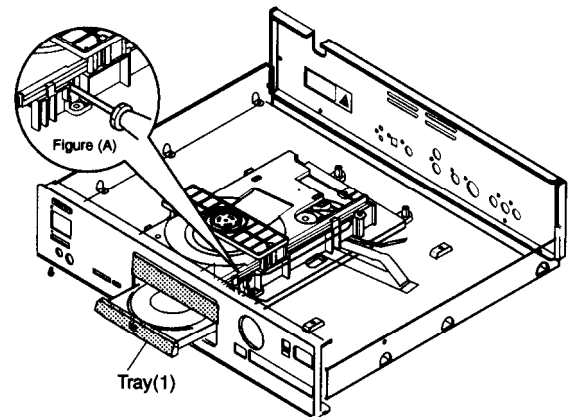

Fig. 2
1. Remove two screws (2) of the tray (1).
2. Push the portion (A) in Fig. 2 using a screwdriver, etc. and release the lock of the tray (1).
3. Pull out the tray (1) after moving the tray (1) in forward direction.